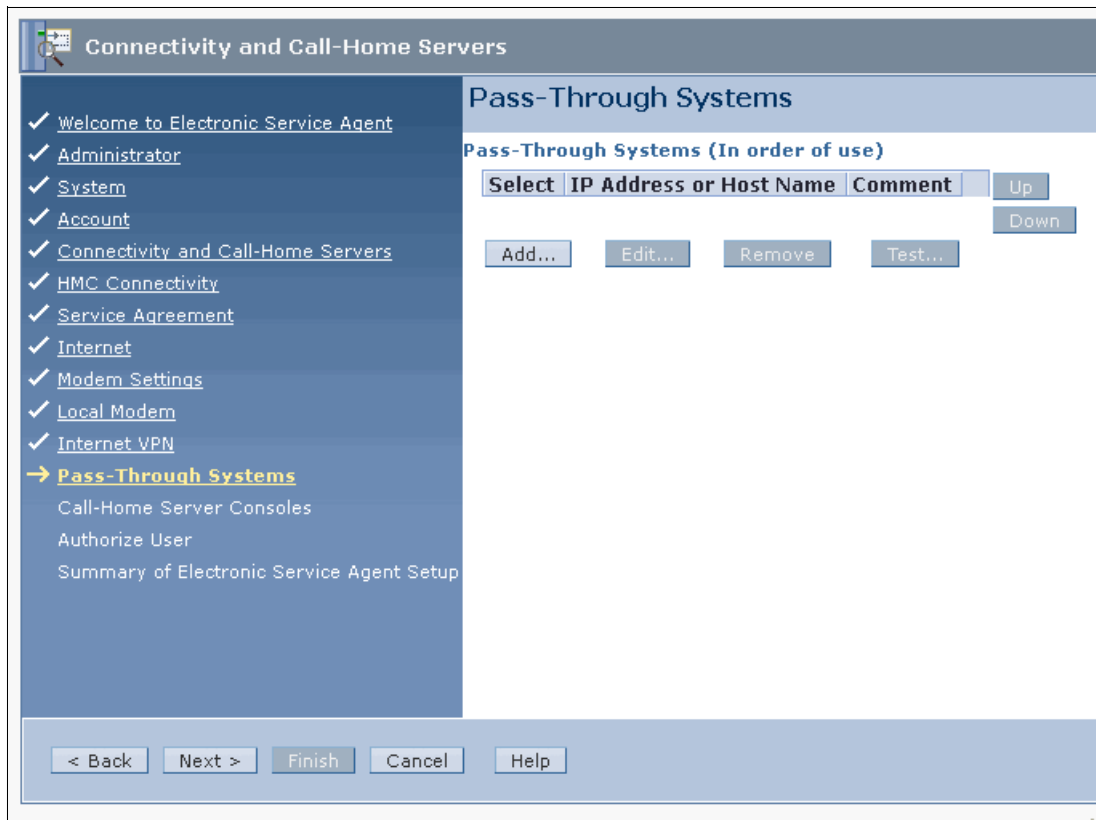

Figure 3-26 Configure a pass-through system
38. Configure Connectivity by using a Pass-Through Systems panel, which is shown in Figure 3-26. By configuring a pass-through system, send problem information to your service provider through another HMC or a logical partition.